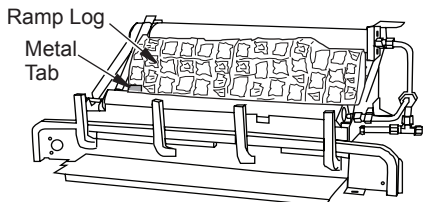

Figure 38 - Installing Fiber Ramp Log
- Place fiber ramp log in center of chassis as shown in Figure 38, page 23. The fiber ramp log can be identified by the shape and much lighter weight when compared to the other logs. The log must sit flat on the black sheet metal and behind the left metal tab as shown. Make sure the side marked "BOTTOM" is setting down.